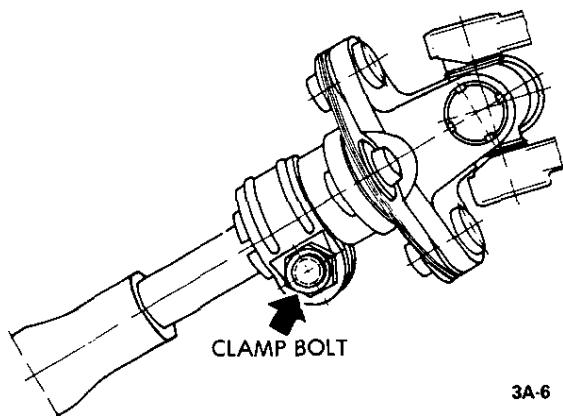

Figure 3A-6 GT Steering Mast Joint
2. Install Hooks J-23697 before jacking up car to assure proper loading of suspension bushings and mounts. See Figure 3A-7.